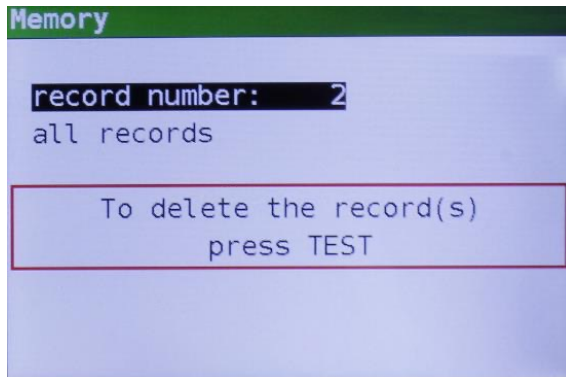

Figure 8.8: delete screen
Step 3 Press the RIGHT ► key, the following screen will be displayed (Figure 8.8).